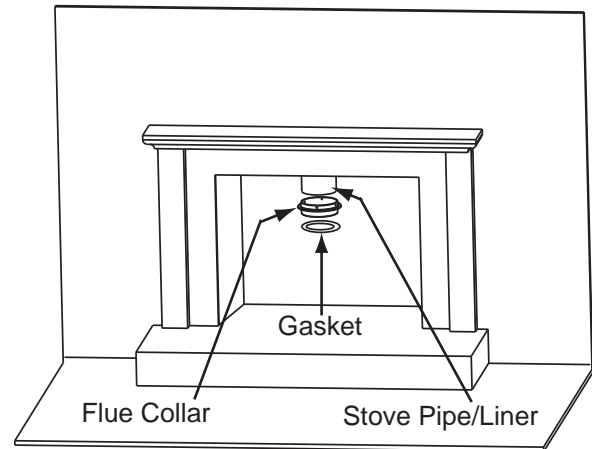

**Figure 40.1**
**Figure 40.1** shows a vertical installation and also how to create an optional 30° elbow installation.